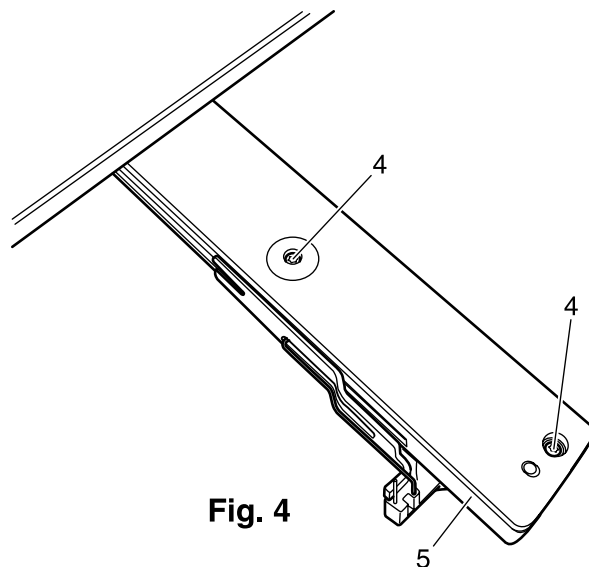

**Fig. 4**
6. Unscrew the small Torx screws 4 of the swivelarm upper part 5 (Fig. 4).